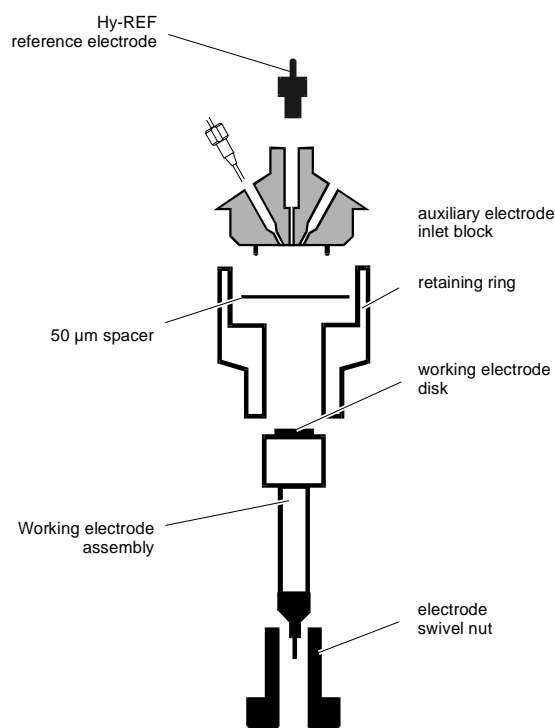

Fig. 9. Exploded diagram of Flexcell.
1. Remove the reference electrode from the inlet block (Fig. 9).
If the working electrode needs maintenance, the cell has to be disassembled (see Fig. 9).